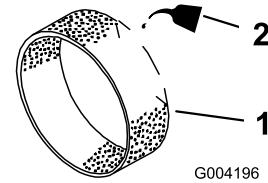

Figure 45
3. Put 1 or 2 fl oz of oil on the pre-filter (Figure 45).